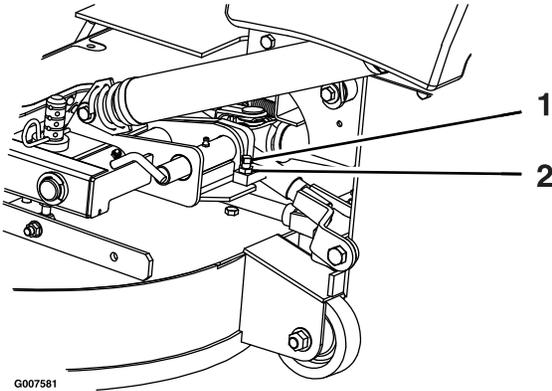

Figure 79
2. Loosen the jam nut and turn the stop screw clockwise until the locking pin is tight and cannot be rotated by hand (Figure 79).